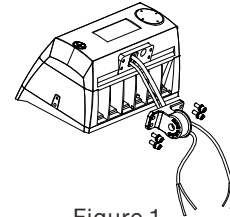

Figure 1
1. Adjustable fitter mounting (AM)
- STEP 1: Remove the bracket mounting screws on the fixture and run the wires through the bracket (FIGURE 1)